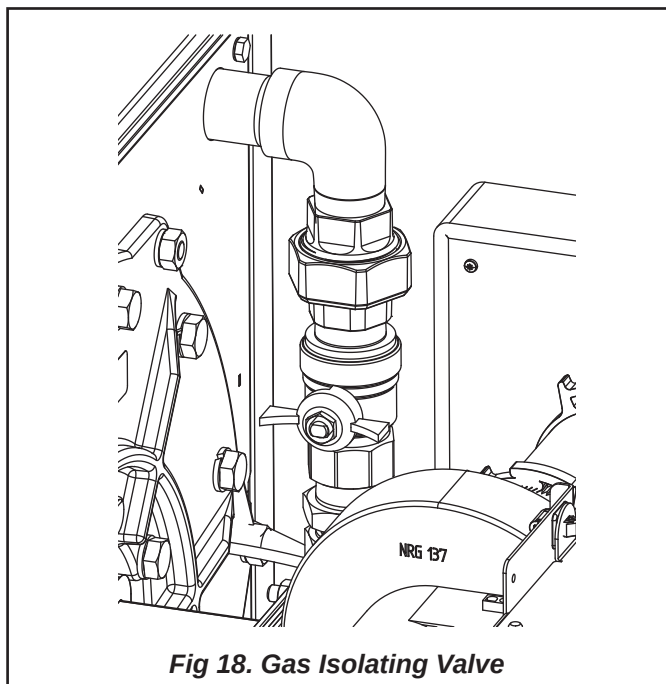

Fig 18. Gas Isolating Valve
1. Make sure the boiler module gas service (isolating) valve is closed see Fig 18.